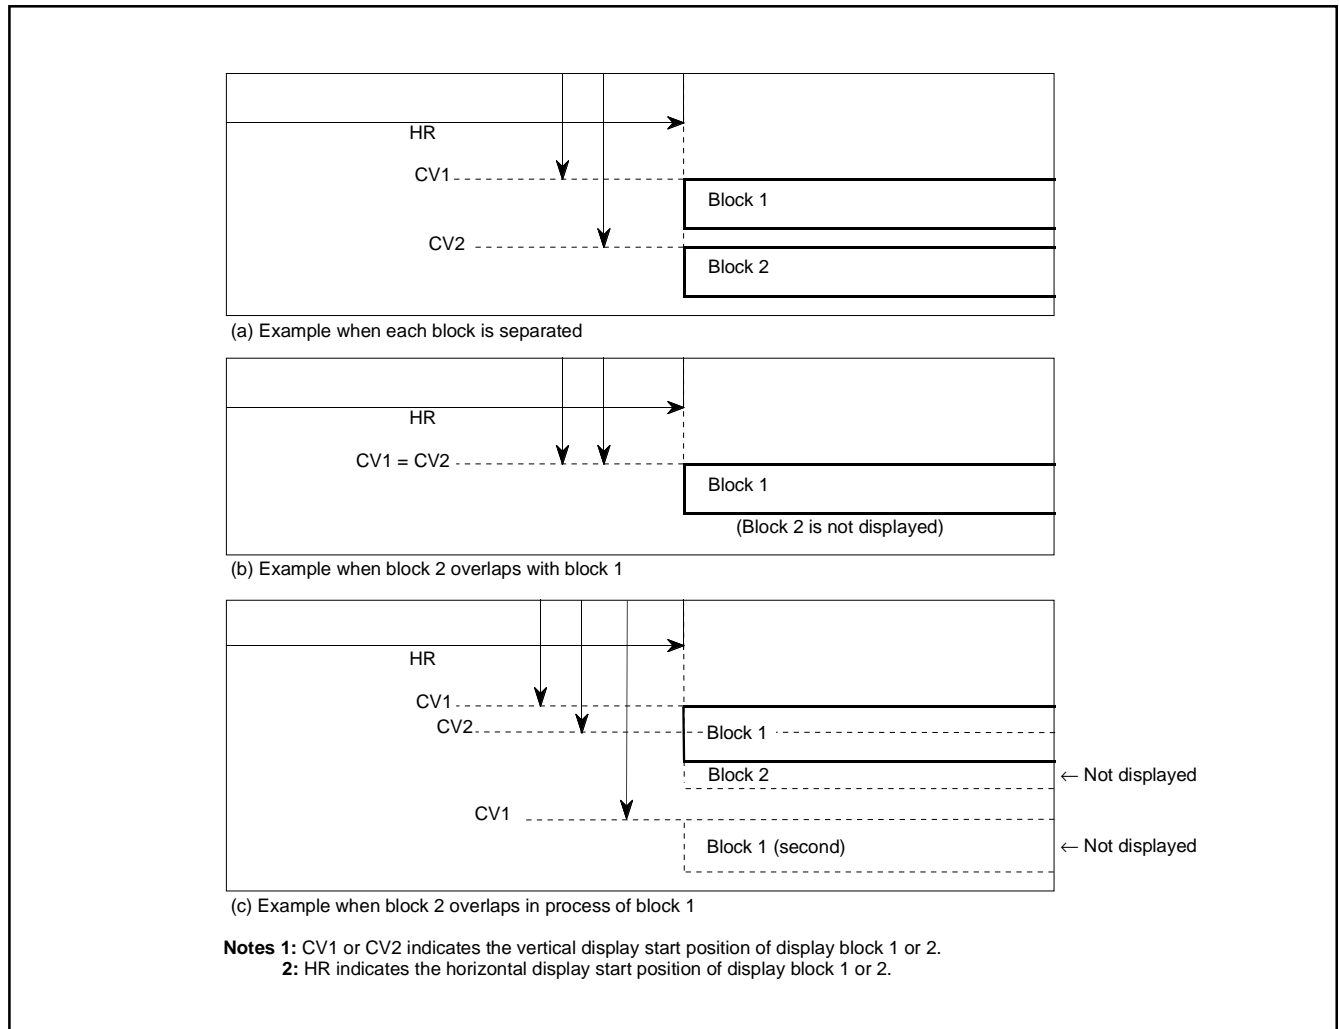

Fig. 8.11.4 Display Position
- Block 2 is displayed after the display of block 1 is completed (Figure 8.11.4 (a)).
- When the display position of block 1 is overlapped with that of block 2 (Figure 8.11.4 (b)), the block 1 is displayed on the front.
- When another block display position appears while one block is displayed (Figure 8.11.4 (c)), only block 1 is displayed. Similarly, when multiline display, block 1 is displayed after the display of block 2 is completed.